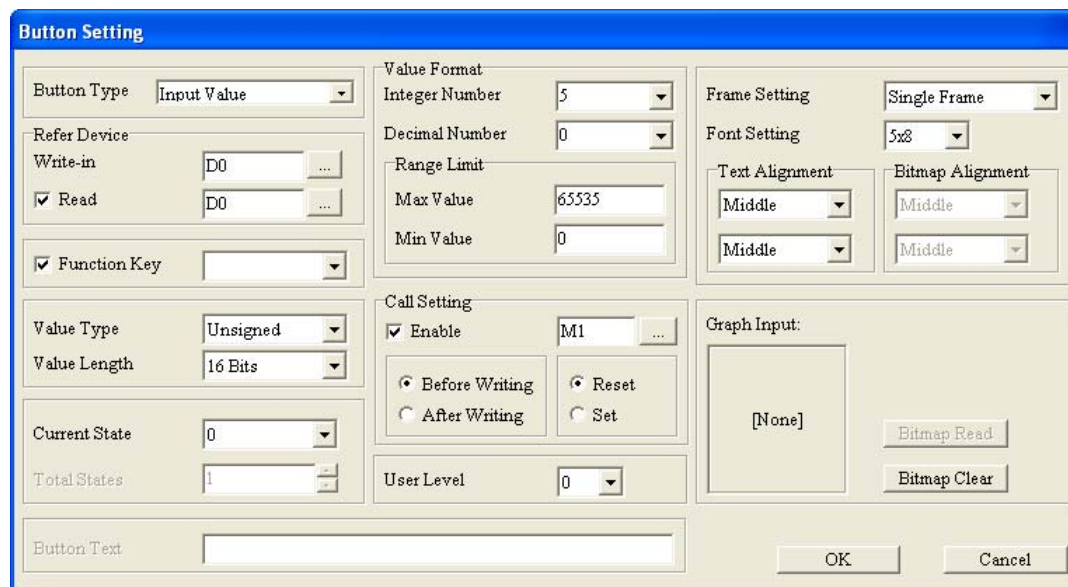

Figure 4-60 **Button Setting** window
- If **Input Value** is selected, the **Button Setting** window will be as shown in Figure 4-60.